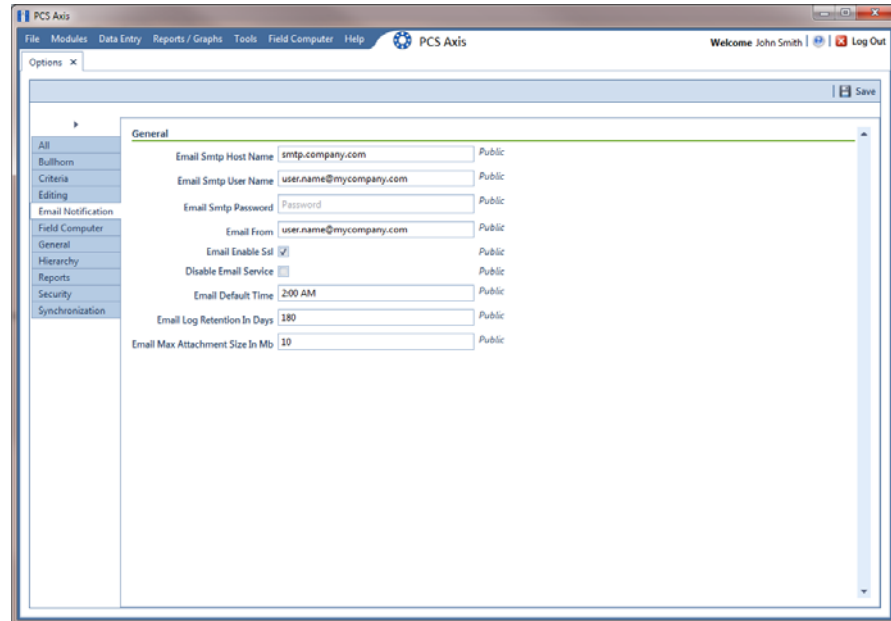

Figure 12-16. Options / Email Notification
- b Click the **Email Notifications** tab to view property settings for *Email Notification* (Figure 12-16, page 547).